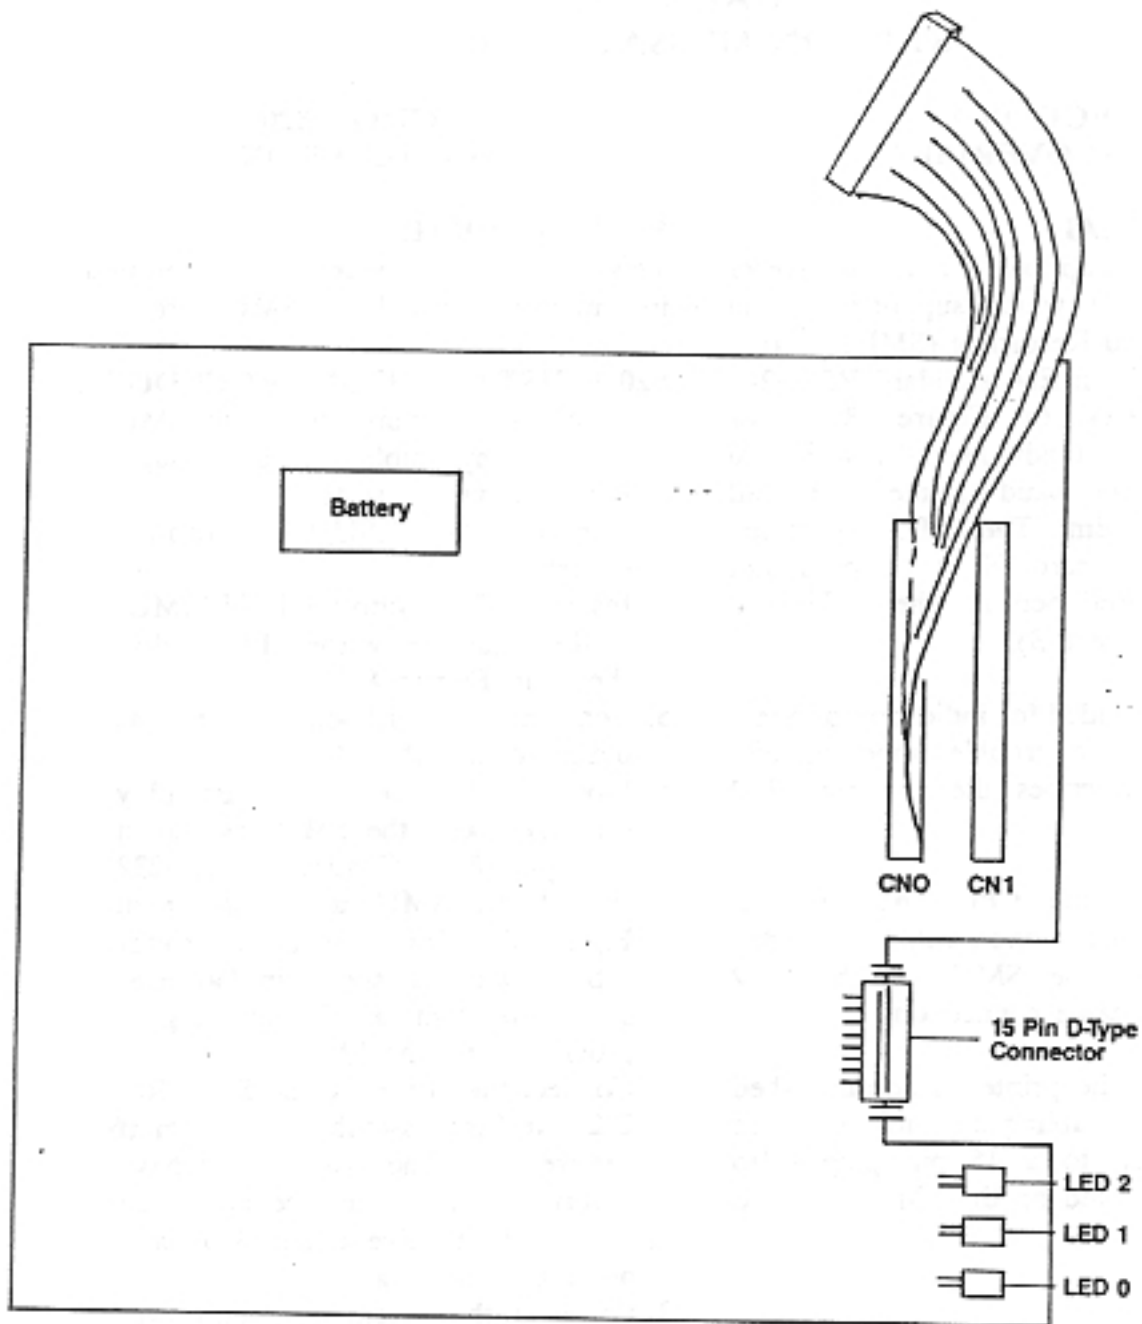
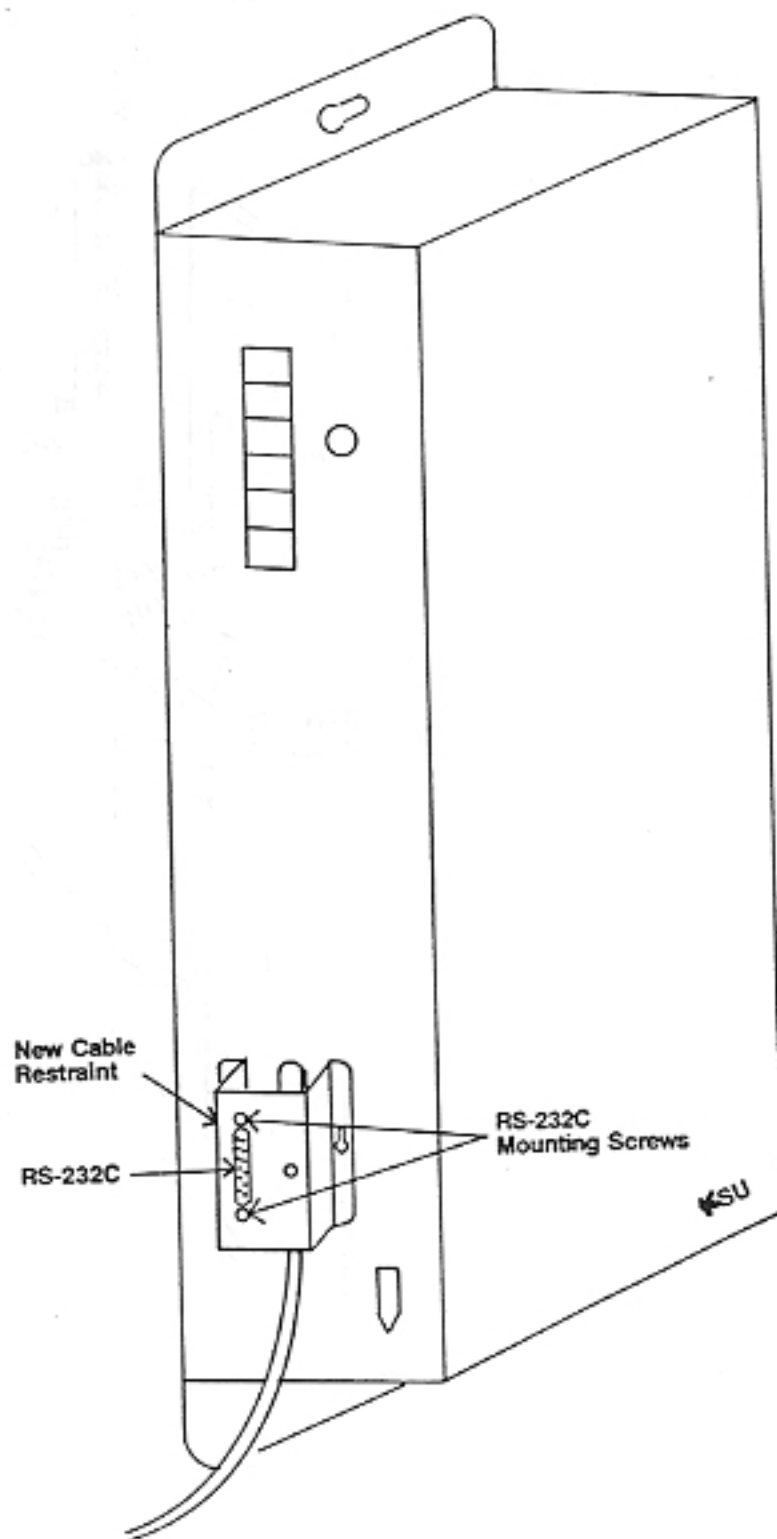
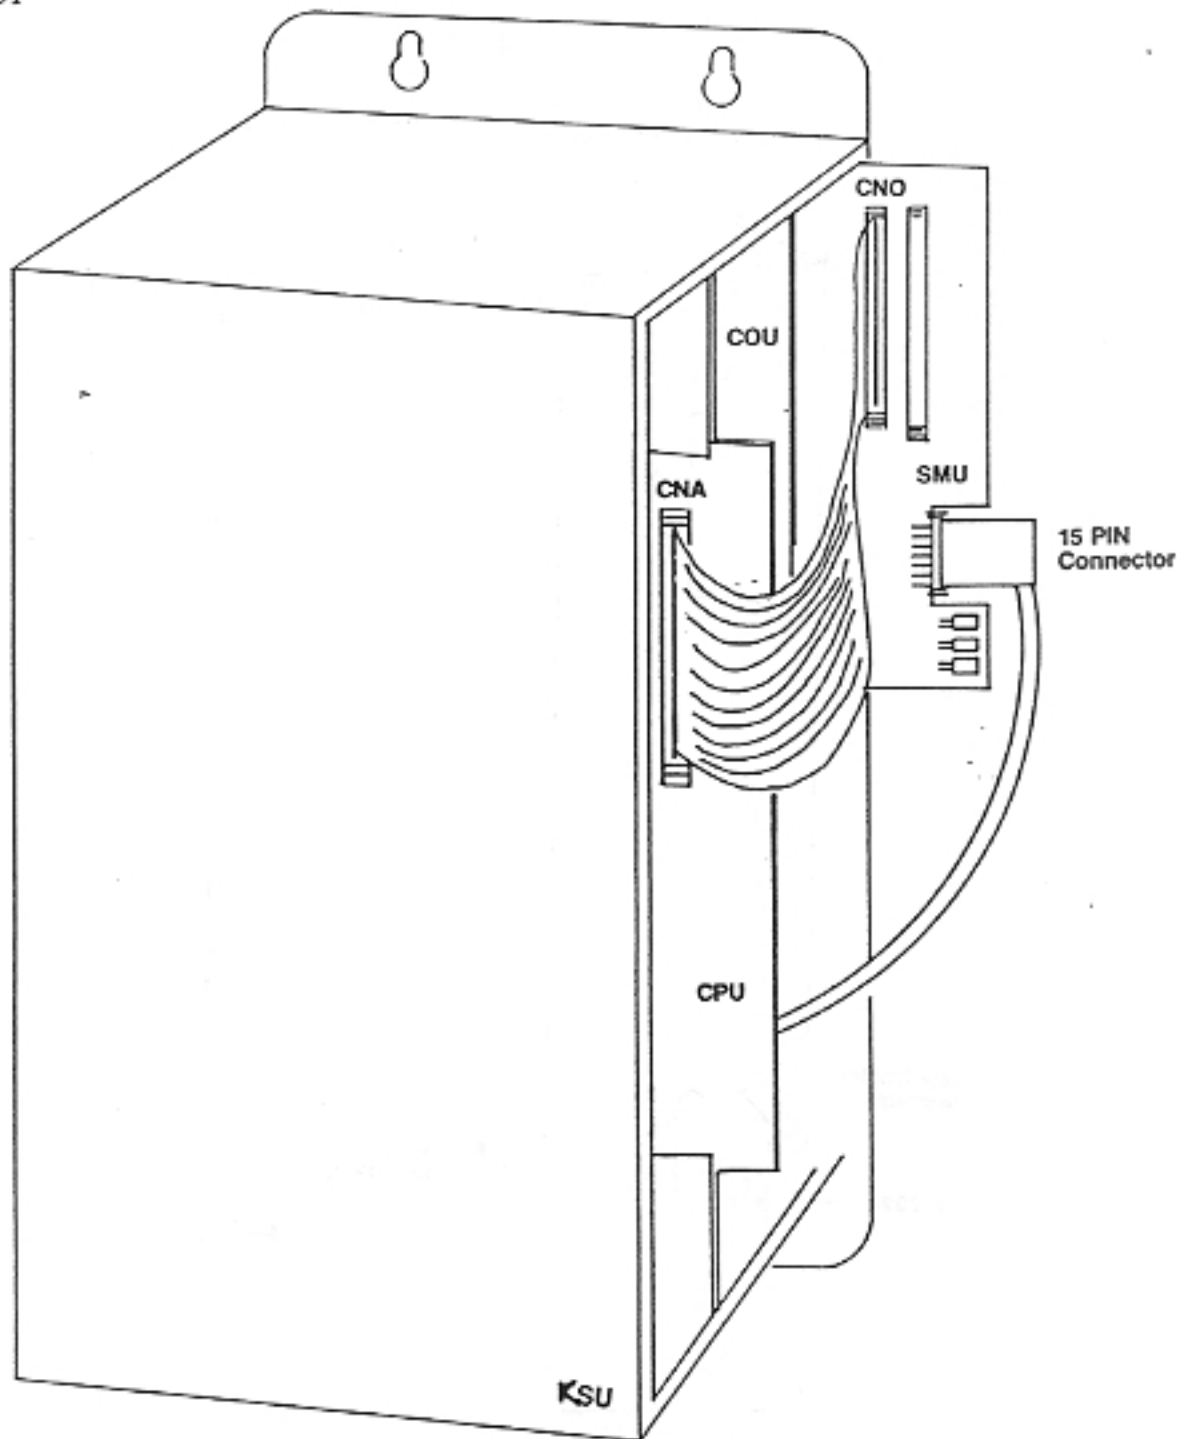

Figure 8-1 Station Message Unit Circuit Card
Figure 8-2 SMU Interface
Figure 8-3 SMU Installation
The SMU is an optional circuit card (refer to Figure 8-1) which supports Station Message Detail Recording (SMDR). It is equipped with an EIA standard RS-232-C interface (refer to Figure 8-2) for connection to a standard serial RS-232 300 baud or 1200 baud printer, or call accounting system. The SMU is installed into the KSU card file in a card slot which is located beneath the CPU card (refer to Figure 8-3).
6. Mount the RS-232 assembly (provided with the SMU) as shown in Figure 8-2. Connect the RS-232 cable to the SMU card as shown in Figure 8-3. Insure that the printer cable is wired as shown in Table 8-3. Note that a 15 pin plug is provided with the SMU.